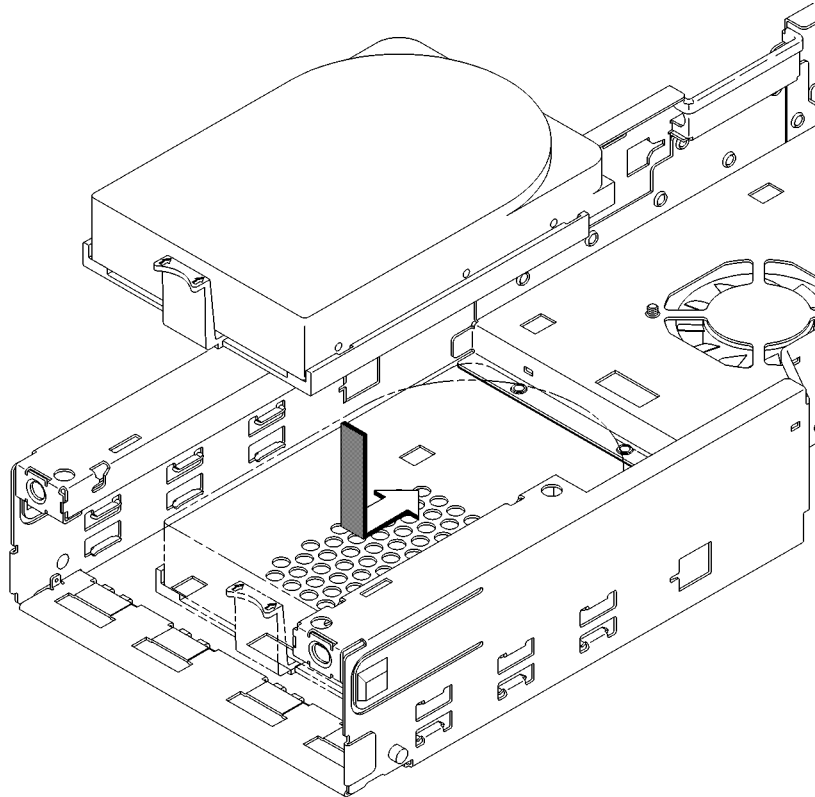

Figure 35 **Installing a Hard Disk Drive in Position 2 (Front Position)**
- 3 Align the four feet on the bottom of the disk drive carrier with the square holes in the storage tray, as shown in Figure 35.
- 6 Push the drive toward the rear of the tray until the locking tab on the drive carrier snaps into place, as shown in Figure 35.